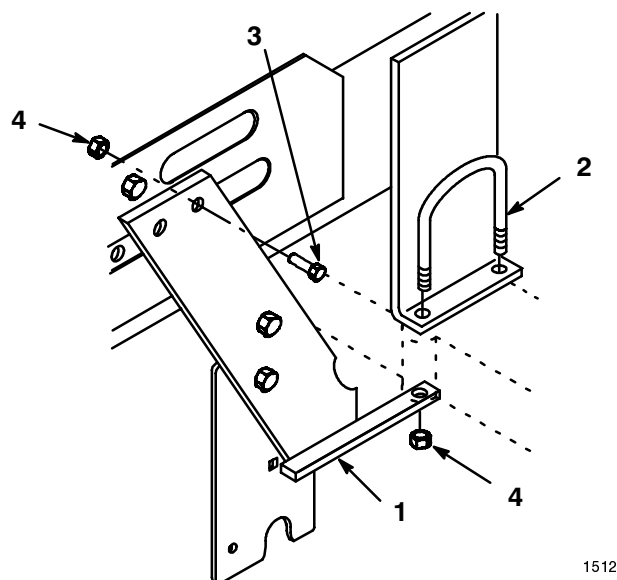

Figure 4
6. Install rear mounting plate\hitch plate assembly alongside frame member with short tang under transaxle toward rear (Fig. 4). Secure with new U-bolts, bolts and lock nuts at holes in frame side members (Fig. 4).